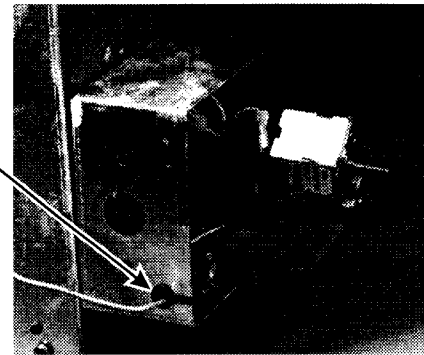

Figure 33
31. Drill a .406 diameter (13/32) hole in the knob face of the thermostat housing. Locate the hole .60 inches in and .50 inches up. Cut a narrow horizontal slot, with shears, to clear the capillary tube. Install grommet (4747718). **See Figure 33.**